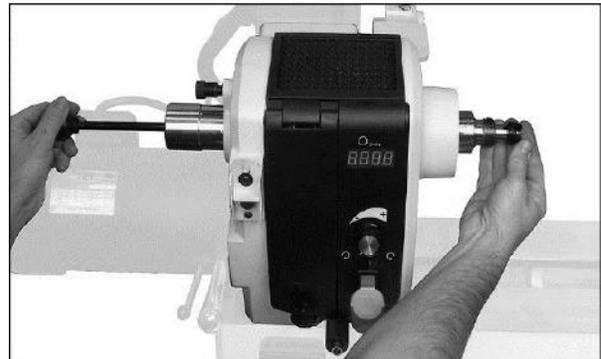

Fig 20
**The spur drive centre** locks into the spindle taper and can be removed with the knockout rod (Fig 20)